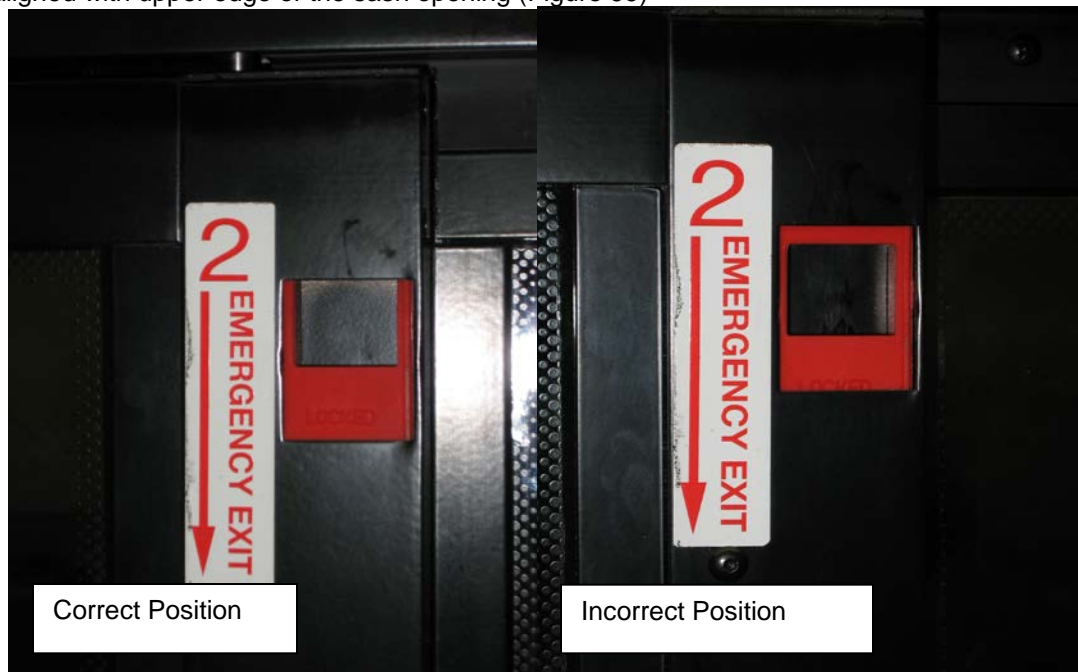

FIGURE 99: RELEASE LATCH PROPER POSITION
6. Confirm that both latches are in the closed (latched) position. The upper edge of the latch opening must be aligned with upper edge of the sash opening (Figure 99)